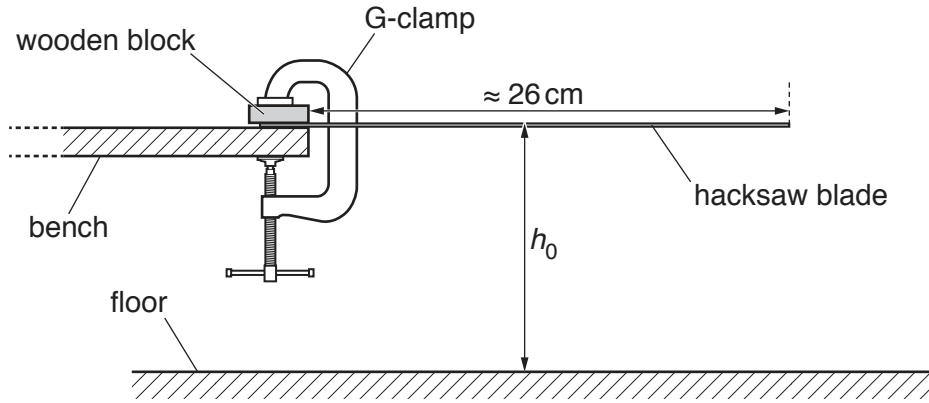

Fig. 2.1 (not to scale)
- (a) • Assemble the apparatus as shown in Fig. 2.1.
- The vertical distance from the floor to the top surface of the hacksaw blade is  $h_0$ , as shown in Fig. 2.1.